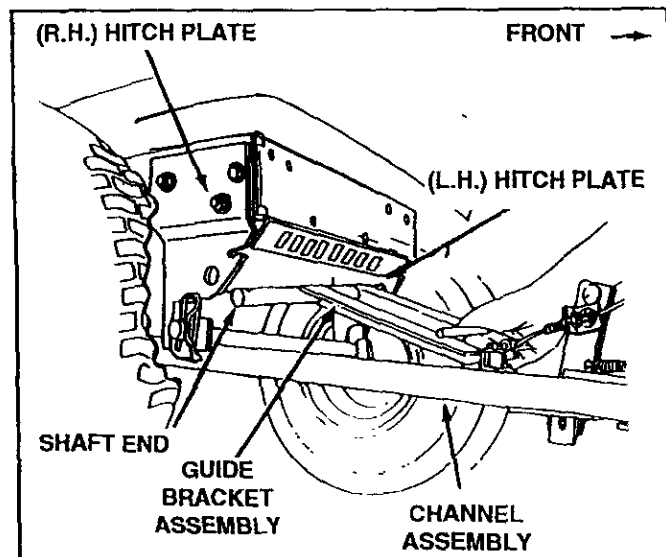

FIGURE 26
30. Assemble guide bracket assembly shaft end into the left hand hitch plate. See figure 26. Slide guide assembly back to the right and into the hole in the right hand hitch plate, and secure with a hairpin cotter on each end. See figure 27. Lower front end of guide bracket assembly to straddle channel assembly. See figure 27.